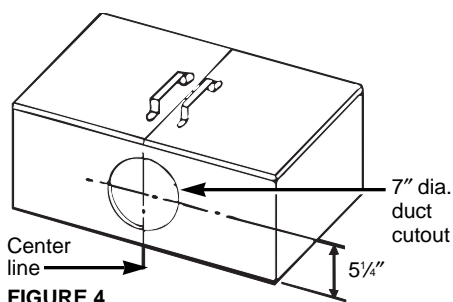

FIGURE 4
Model JV327 See Figs. 4 & 9
**Round Duct** See Fig. 4 & 9: If round duct is desired either of the following methods must be used: